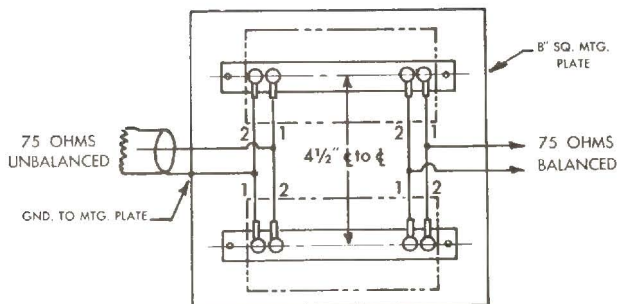

Fig. 1
1. Unbalanced 75 ohms to balanced 75 ohms as shown in Fig. 1.
Figures 1 and 2 show how two B & W type 3975 coils may easily be mounted and wired together. Selection of either one of the two wiring examples will provide for proper match between 75 ohm unbalanced transmitter outputs to 75 or 300 ohm balanced feed line systems.